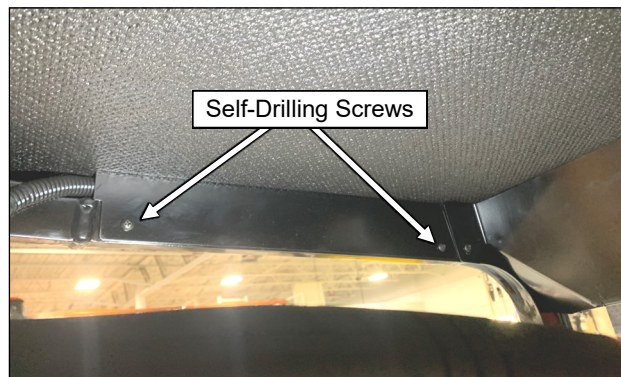

Fig. 1.23a (Install Wire Cover, Front)
- 1.23** Per figures 1.23a and b, install left side covers onto the door header tube, through the slots in the covers into the pilot holes in the tube. Make sure not to drill or pinch the console harness.